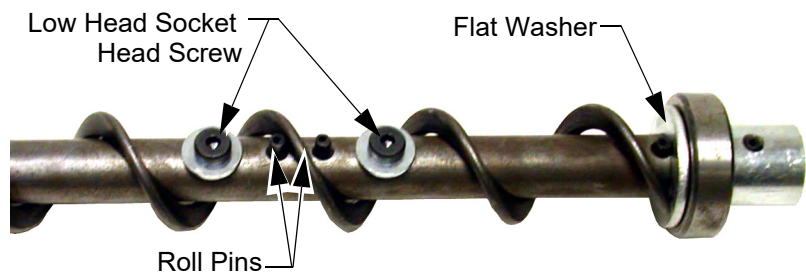

Figure 51. Auger and Anchor Bearing Connection
If the system must be disassembled, extreme caution must be used to prevent injury from springing auger. Refer to **Figure 51**.
1. Insert the Anchor Assembly into the auger, guide the tip of the auger between the two roll pins in the center of the anchor. Continue to guide the auger until the tip of the auger hits the flat washer. Tighten the setscrews in the center of the anchor until they touch (See **Figure 51**.)